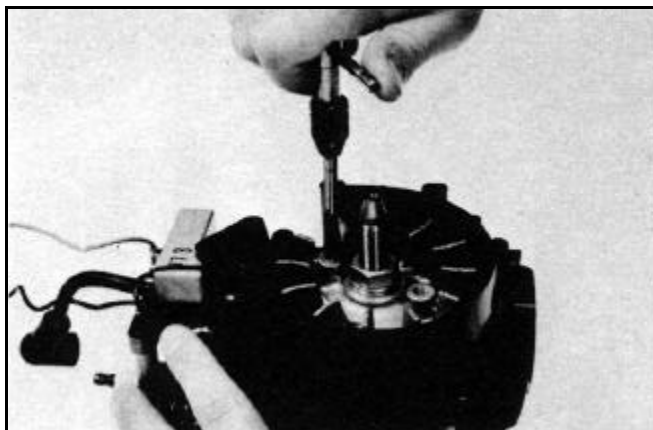

Figure 228
5. Tap the 2 cored flywheel holes with a 1/4 - 20 tap (Figure 228).